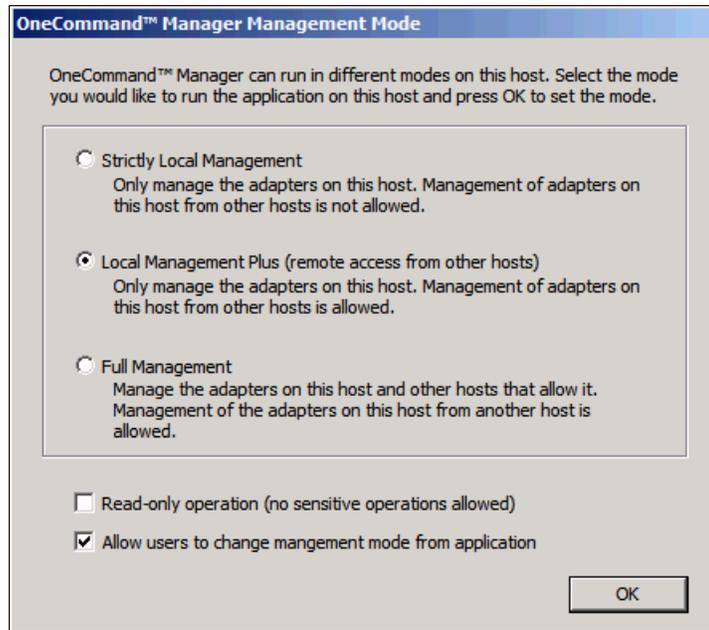

Figure 5-31 OneCommand Manager Management Mode options
6. After the installation process completes, in the Management Mode dialog box (Figure 5-31), choose the management mode you want. For this example, we selected **Local Management Plus**. Then click **OK**.